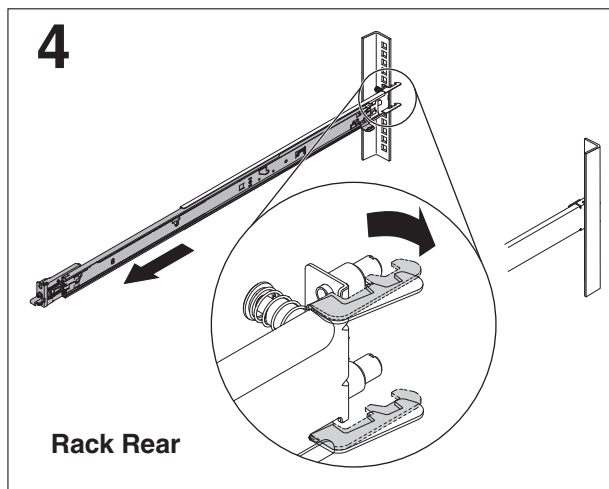

Figure 39. Removing the rear end of the slide rails
3. Disengage the slide rails from the rear of the rack, as shown in Figure 39.